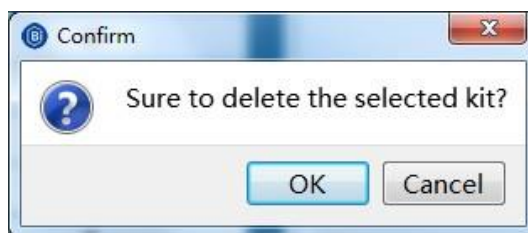

Figure. 8.4.6 Confirm deletion
- Click **Delete whole kit of reagent** and the system will pop up the confirmation message, as shown in Figure 8.4.6